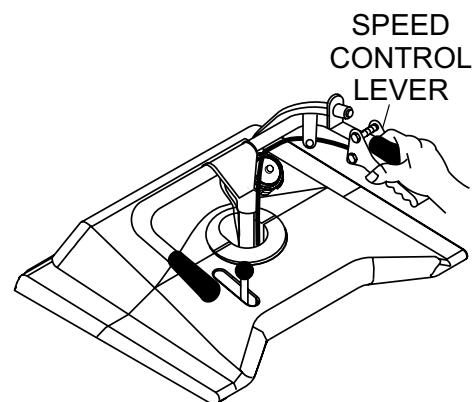

Figure 20. Speed Control Lever
3. Check the speed control lever (Figure 20) located on the right side of the handle bar. The speed control should work freely when squeezed by hand, and return to the **neutral** position when released.
5. Slowly squeeze the speed control lever slightly (Figure 20), for a short period of time to test the brake holding capacity. If the buggy moves forward, adjust the brakes as outlined in the maintenance section of this manual.
2. Squeeze the speed control lever (Figure 20) slightly until the buggy begins to move in a forward direction. Initially, let the buggy travel at about 3 MPH.